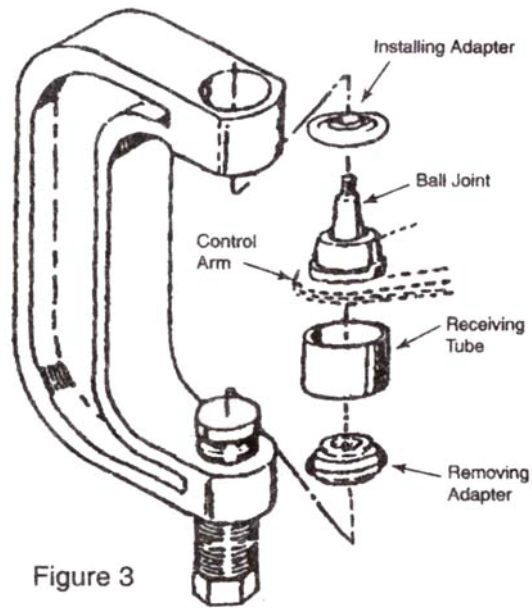

Figure 3
1. Assemble the ball joint press over the control arm as shown in Figure 3. Select the correct size receiving tube (Item 6, 7, or 8), and position it under the vehicle ball joint refer to Figure 3.